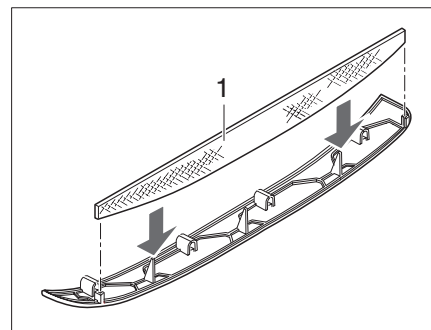
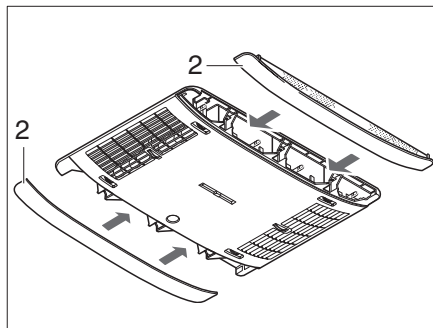

Fig. 195 Lint filter air conditioning unit
Fig. 196 Air conditioning unit panels
Two lint filters are located in the side panels (Fig. 196,2). The lint filters must be cleaned at regular intervals, at least every 6 months however, and replaced if necessary.
- ▶ Remove the panels (Fig. 196,2) from the air distribution unit and clean the lint filter (Fig. 195,1) or replace it if necessary.